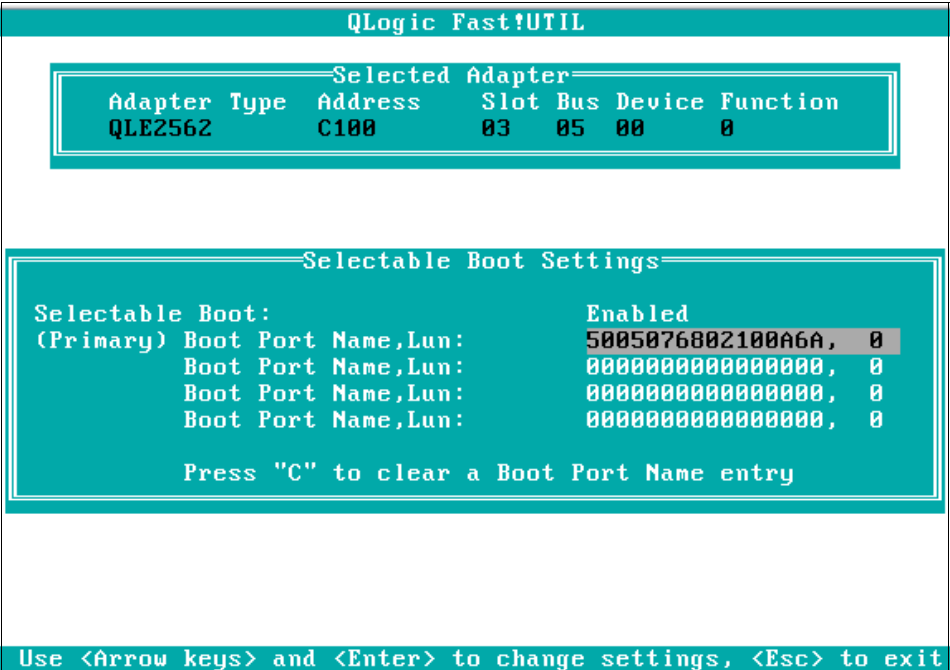

Figure 5-53 Boot LUN
11. After selecting the appropriate storage Boot Volume, you come back to the previous panel, which now shows device information under *(Primary) Boot Port Name, LUN*, as shown in Figure 5-53.